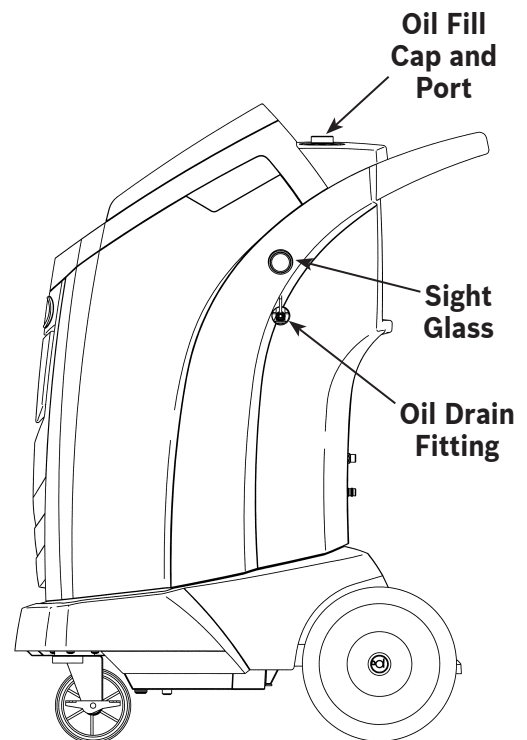

Figure 11
3. **SLOWLY** open the oil fill cap to verify there is no pressure in the machine. Then carefully remove the cap. See Figure 11.